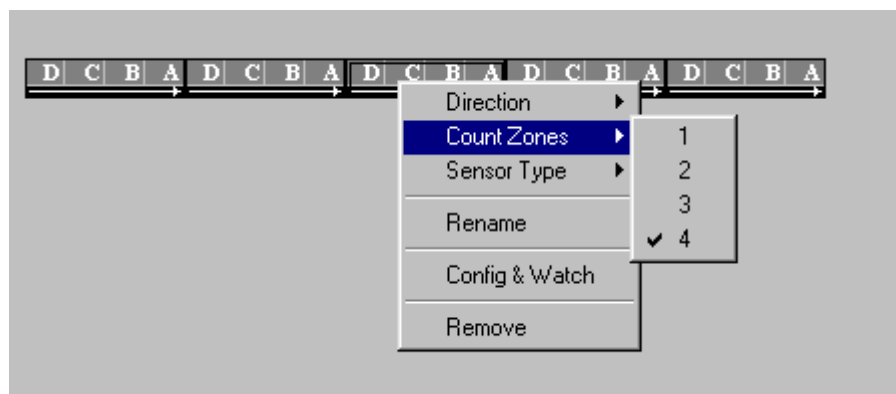

Fig. 4.19
- Approach **Count Zones** item to open the options box – Fig. 4.19.